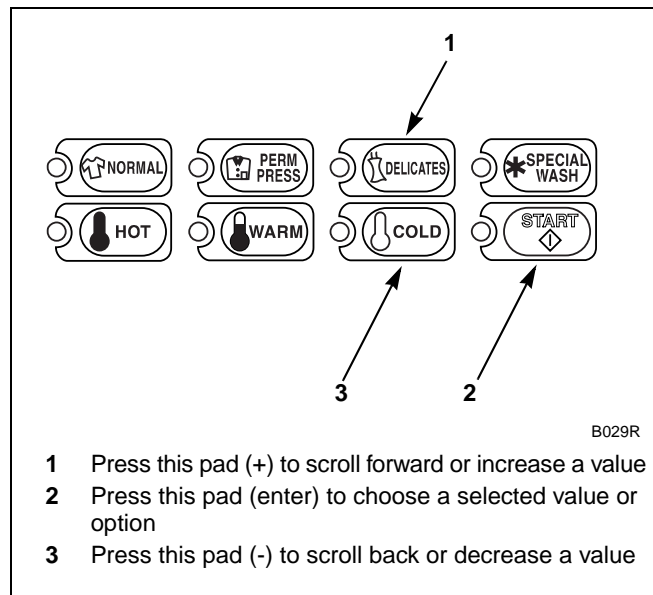

Figure 59
5. Press the DELICATES (+) or the COLD (-) keypad to increase or decrease the current extraction speed displayed in the VFD to the desired extraction speed. Refer to *Figure 59*.